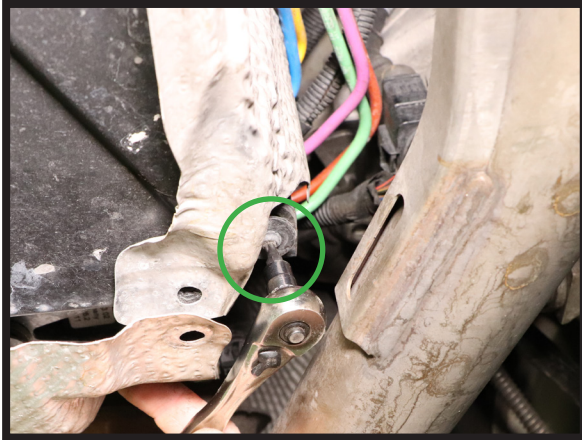

FIGURE 6
5. REMOVE THREE (3) VALVE BLOCK BRACKET SCREWS. (FIGURES 6, 7, 8)